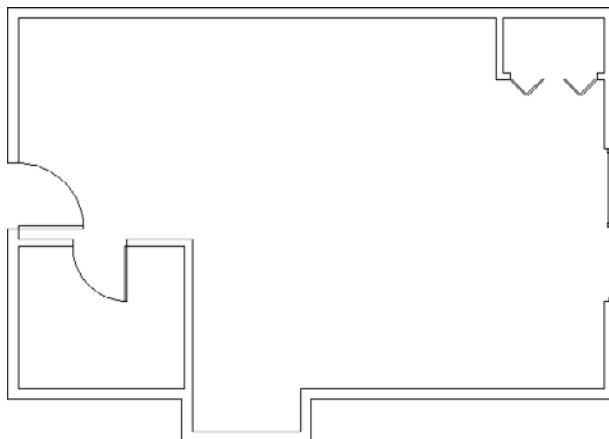

FIGURE 4.79 The cabin with the walls and doors completed
16. Click the Zoom Extents button to see the full floor plan with all doors (see Figure 4.79).